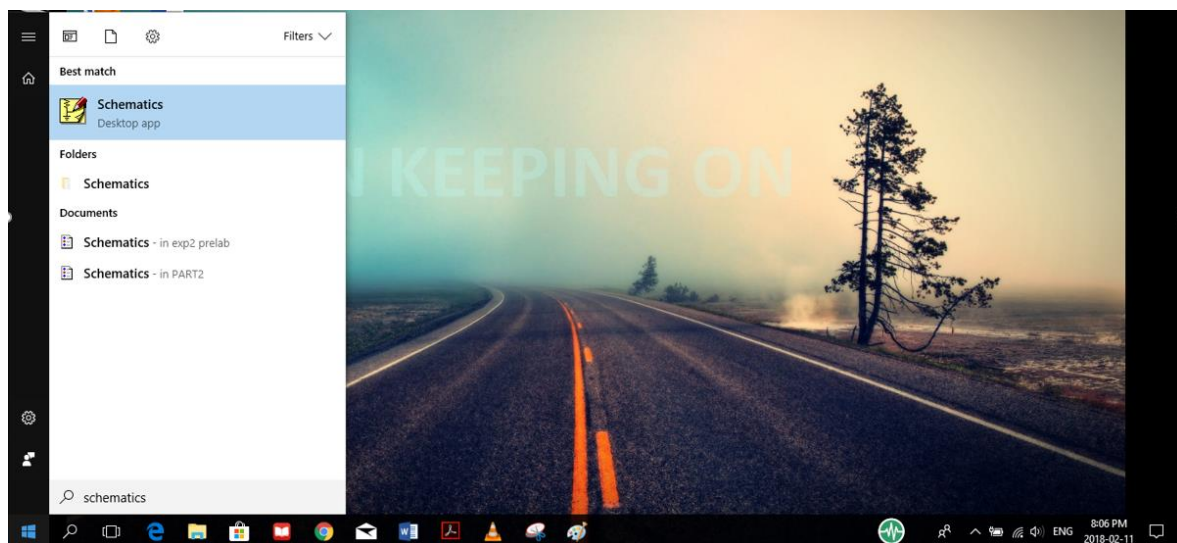

Figure.1
- To open PSPICE 9.1, search your computer for “**Schematic**” and open the program. This is shown in figure.1 for windows 10 users. **Note: zoom in to see figure details if not clear.**